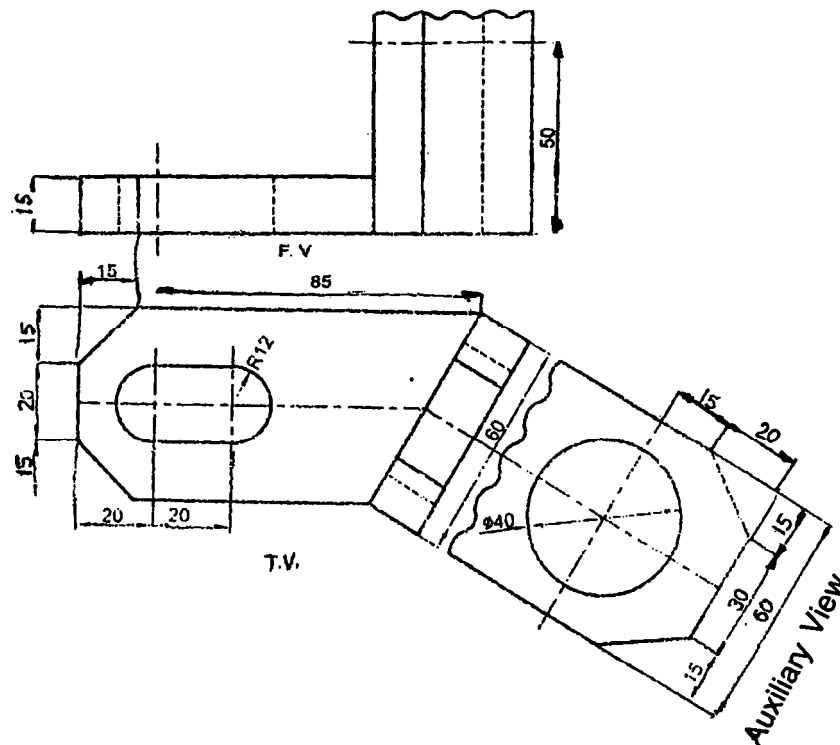

Fig. 2
2. (A) Fig. 2 shows the complete front view top view and partial Auxiliary view of bracket. Draw the given views and complete the front view. 12